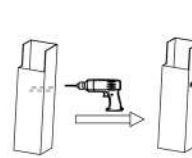

Figure 4-1
- 1: Use the electric drill to drill holes on the poles or suspended walls. (The hole pitch should be according to the actual application of products, the hole size should be same as the screw the user has. (Figure 4-1)